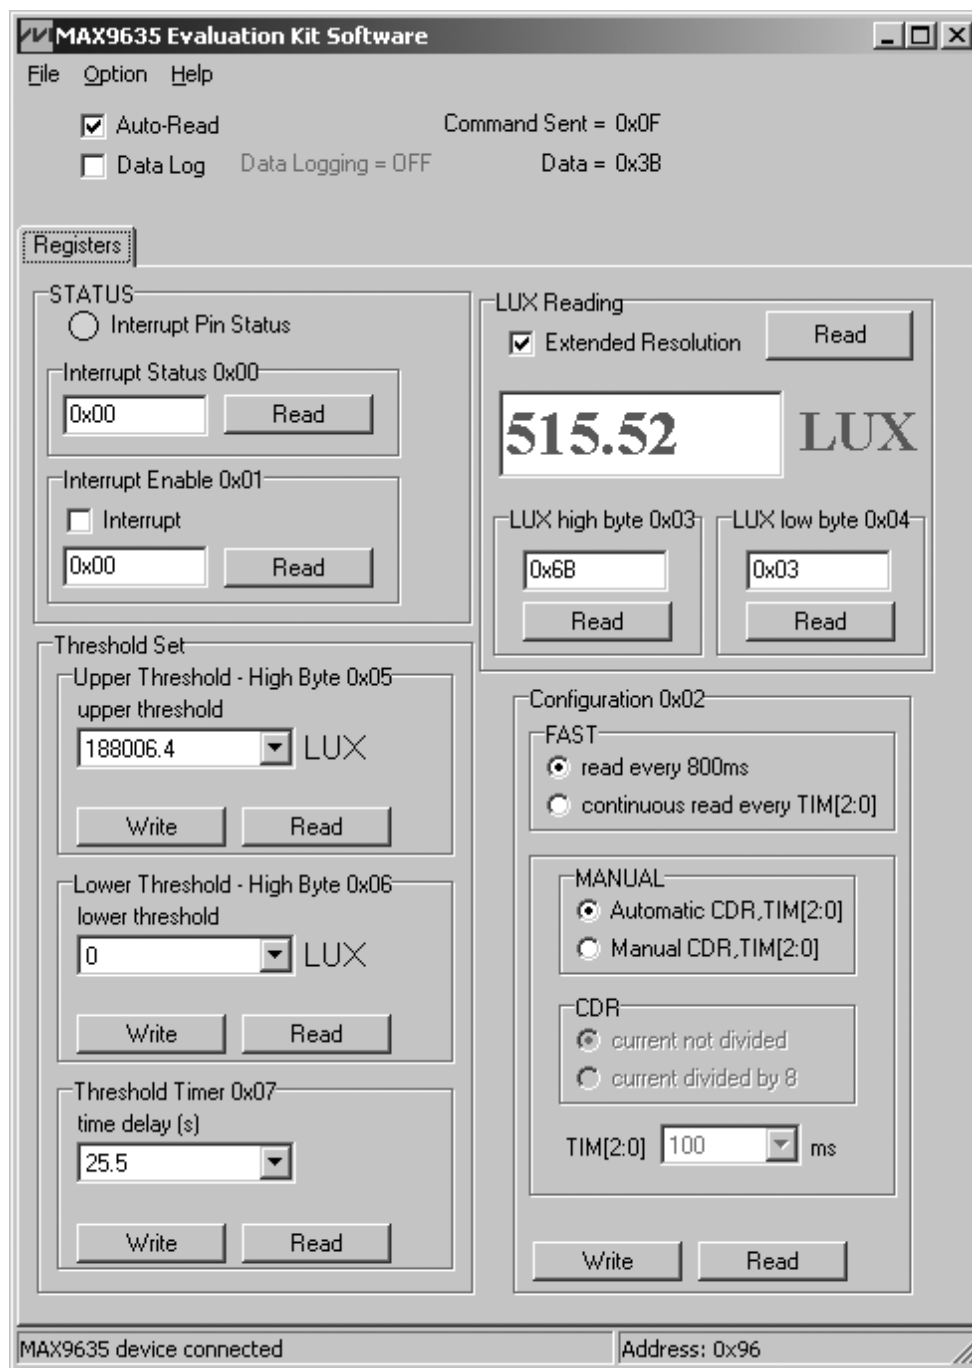
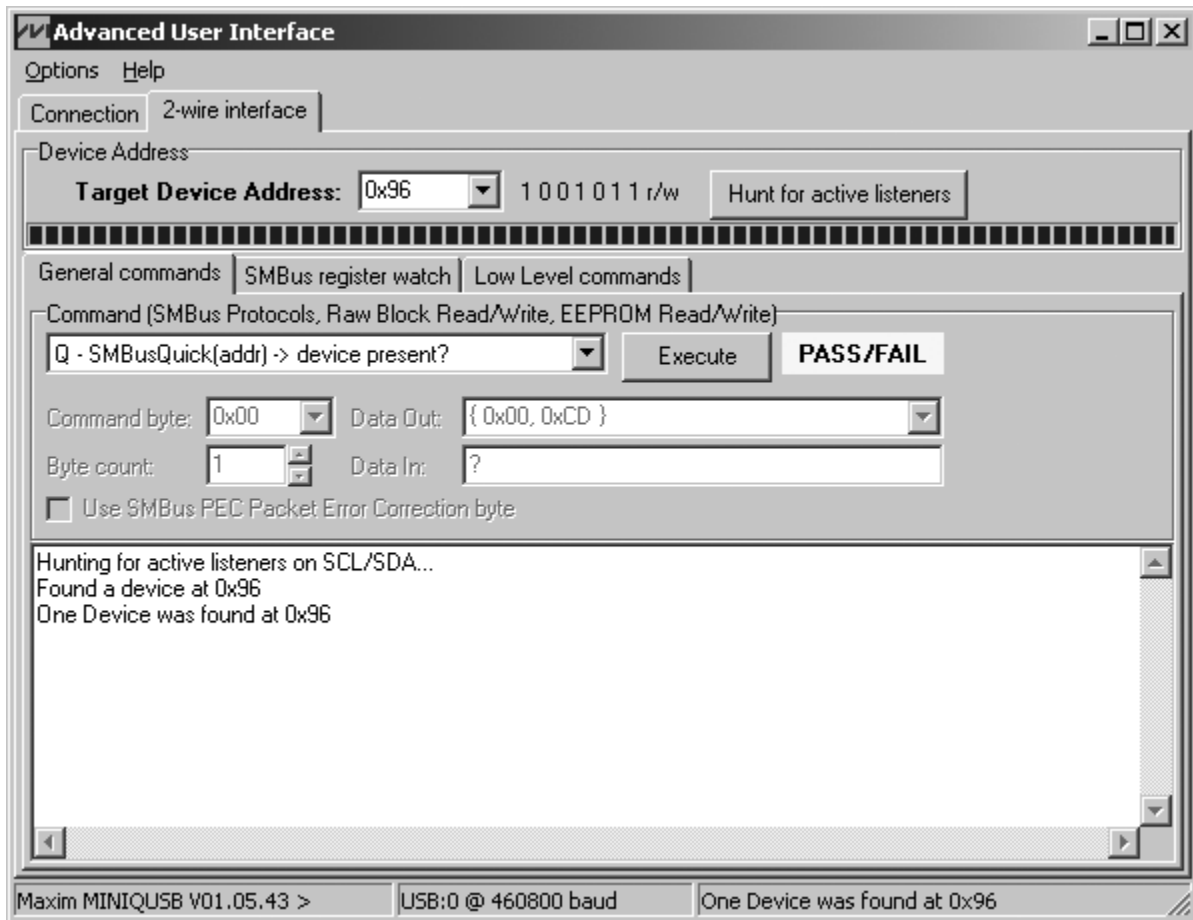

Figure 1. MAX9635 EV Kit Software Main Window
Figure 2. MAX9635 Interface Diagnostic Window
- 6) Start the EV kit software by opening its icon in the **Start | Programs** menu. The EV kit software main window appears, as shown in Figure 1. Observe as the program automatically detects the EV kit and starts the main program.
The MAX9635 EV kit software GUI (Figure 1) is a Windows program that provides a convenient means to control the MAX9635. The EV kit software accurately reads the device's digital output and displays the lux reading of ambient light. The software has an option to extend the resolution and dynamic range of lux measurements. The software also sets the upper and lower lux threshold limits, configures the interrupt functionality, and configures other modes of device. Refer to the *Register and Bit Descriptions* section in the MAX9635 IC data sheet for further details.
There are two methods for communicating with the device, through the EV kit software main window (Figure 1), or through the interface window available by selecting the **Options | Interface (Advanced Users)** menu item from the menu bar. The Maxim command module interface window (Figure 2) includes a **2-wire interface** tab that allows for execution of the frequently used commands.